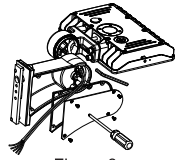

Figure 8
Step 2: Pass the input wire of the fixture through the bracket(Figure 8);